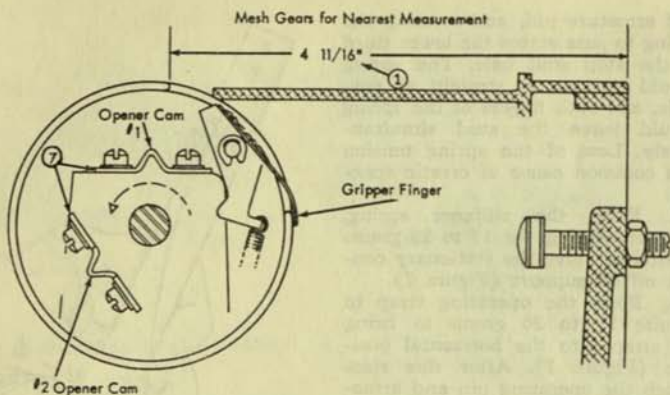

Figure 9. Stacker Adjustment
1. With the card feed index latched at 0°, time in the stacker with the teeth which provide the closest measurement to 4-11/16" from the upper cut in the stacker drum to the front edge of the base (Figure 9, step 1). It is advisable to measure this distance before removal of the unit to prevent changing other adjustments which might be affected because of a change in timing.
This operation must be checked under power with a partially filled hopper. An initial setting of the cams should cause the gripper finger blocks to contact the number 1 cams at 73° of the CF index. Adjust the number 2 cams to stack the cards without marking them (Figure 9, step 7).